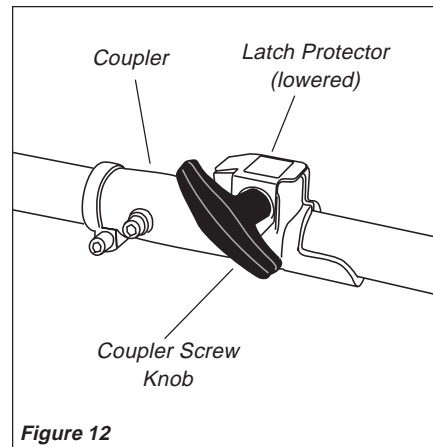

Figure 12
4. When the two tube halves are locked together, press down on the spring-loaded latch protector and tighten the coupler screw. See Figure 12.